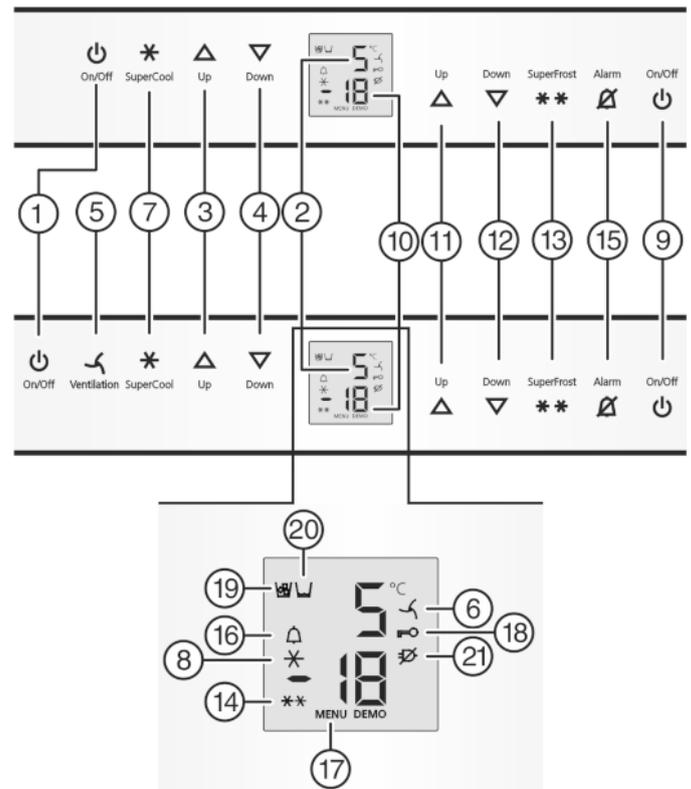

Fig. 2
- ▶ Press On/Off button, freezer compartment *Fig. 2 (9)*.
- ▶ Press On/Off button, refrigerator compartment *Fig. 2 (1)*.
- ▷ The fridge section is on: Fridge temperature display *Fig. 2 (2)* is on. When you open the door the interior light comes on.
- ▶ To activate the setting mode: press SuperFrost button *Fig. 2 (13)* for about 5 s.
- ▷ The menu symbol *Fig. 2 (17)* shines.
- ▶ Briefly press the SuperFrost button *Fig. 2 (13)* to confirm. When **cl** is indicated in the display:
- ▶ To activate the child lock, briefly press the SuperFrost button *Fig. 2 (13)*.
- ▷ The child lock symbol *Fig. 2 (18)* shines. **c** flashes in the display.
- ▶ to deactivate the child lock, briefly press the SuperFrost button *Fig. 2 (13)*.
- ▷ The child lock symbol *Fig. 2 (18)* goes out. **c** flashes in the display.
- ▶ To deactivate the set-up mode: press On/Off button, freezer compartment *Fig. 2 (9)*.
- ▶ Press alarm button *Fig. 2 (15)*.
The temperature display and the alarm symbol *Fig. 2 (16)* flash at the same time.
The audible alarm is automatically silenced, the alarm symbol *Fig. 2 (16)* goes out and the temperature display stops flashing when the temperature is sufficiently cold again.